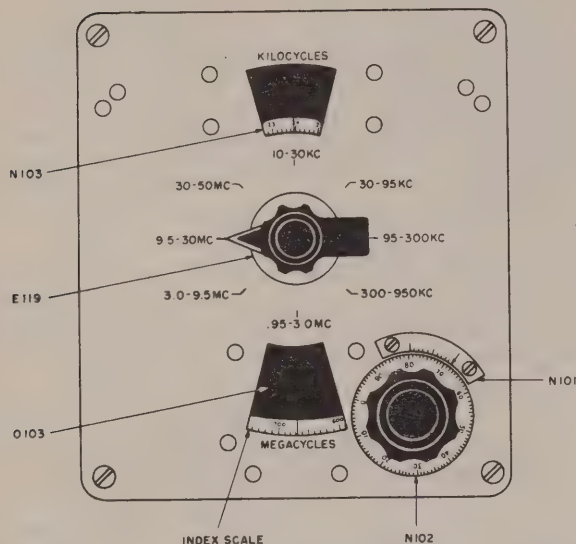

Figure 4-2. Diagram Showing Vernier Reading of Frequency Scale
(1) Set MOD-XTAL & METER SELECTOR to XTAL position, MICROVOLTS control fully clockwise. Adjust carrier control until meter reads "10".
(2) Connect a pair of headphones to XTAL CAL OUT jack, using cable W105 and Connector Adapter UG-684A/U. Use XTAL CAL OUT control as a volume control, if necessary.
(3) For frequencies higher than 12 mc of the 9.5-30 mc band and 32 mc of the 30-50 mc band, select the nearest megacycle (zero or null) beats on either side of the desired frequency and record the vernier dial readings at these points. The difference between these readings represents the vernier difference for a one mc spread. The vernier setting for the desired frequency may be determined by interpolation. See paragraph 5c(1) for an example of frequency interpolation.
(4) For frequencies between 10 and 12 mc of the 9.5-30 mc band and between 30 and 32 of the 30-50 mc band, set to the desired frequency on the frequency scale (see par. 4f) and record the vernier reading. Set to the nearest even megacycle frequencies on either side of the desired frequency and record the vernier readings. Calculate the proportional difference of the desired frequency reading to the difference representing a one megacycle spread. Select the megacycle (zero or null) beat nearest to each of the two even megacycle graduations and record the vernier readings. The vernier setting of the desired frequency is calculated by applying the proportional difference of the direct reading to the vernier difference of the megacycle beat readings. See paragraph 5c(3) for an example.
c. EXAMPLES OF FREQUENCY INTERPOLATION (See figure 4-2).
(1) Assume a desired frequency of 24.2 mc.
(2) Select the zero beat closest to 24 mc. This might indicate slightly less than 670 on the index scale and 68.5 on the vernier scale (N101 and N102). The vernier reading for 24 mc is thus 668.5.
(3) Rotate the tuning dial until the zero beat nearest 25 mc is obtained. This might indicate a vernier reading of 704.1.